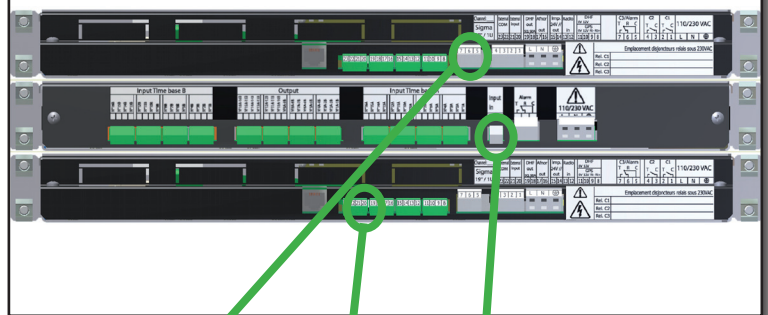

FIG. 1 :
Raccorder l'alimentation 24 ou 36/72VDC, ou secteur 110-240 VAC (Fig.: 1). Si l'installation (24V) comporte plusieurs Sigma UPS, les masses des Sigma UPS doivent être raccordées entre elles.
Tous les câbles doivent être attachés au châssis de l'armoire avant d'être raccordés aux différents borniers, ceci pour éviter toute traction sur ces borniers. De plus, les fils électriques de chaque borniers, doivent être attachés entre eux afin de maintenir les différentes isolations en cas de premier défaut. Raccorder la sortie alarme (bornes 5 et 6) du Sigma maître (A) sur l'entrée externe (bornes 20 et 21) du Sigma secondaire (B) et alarme (borne in) du Switch (Fig.: 1). Cette sortie commandera le basculement vers l'horloge mère secondaire. Le relais 3 du Sigma maître doit être déclaré en alarme (voir §9.4 de la notice du Sigma).
Connect the mains 230VAC or extra low voltage 24 or 36/72VDC (Fig.1). When the installation (24 or 36/72VDC) includes several Sigma UPS the earth poles of the sigma UPS batteries should be interconnected. The mains supply for this device must include a neutral phase circuit breaker of maximum 16A C curve (6A maximum for 24VDC version), rapidly accessible upstream from the supply. All cables must be attached to the frame of the cabinet before being connected to the various terminals strips, to prevent any pulling on these terminal strips. In addition, the wires of each terminal strips must be attached to each other to maintain the various isolations if an initial fault occurs. Connect the alarm output (terminals 5 and 6) of the main Sigma (A) on the external input (terminal 20 and 21) of the secondary Sigma (B) and on the alarm input (terminal in) of the Sigma switch (Fig. 1). This output will control switching to secondary master clock. Circuit 3 of the main Sigma must be assigned to alarm (see §9.4 of the SIGMA instruction manual). Equipotentiality of the ground between Sigma master clock and Sigma switch (of «-» for 24 or 36/72VDC version). Connect the time outputs of the main master clock to Input time base A and the ones of the secondary master clock to Input time base B. Connect the slave clocks to Output. When more than 8 outputs must be switched (for example the 12 outputs of 4 AFNOR option cards) then 2 Sigma Switch modules are required.